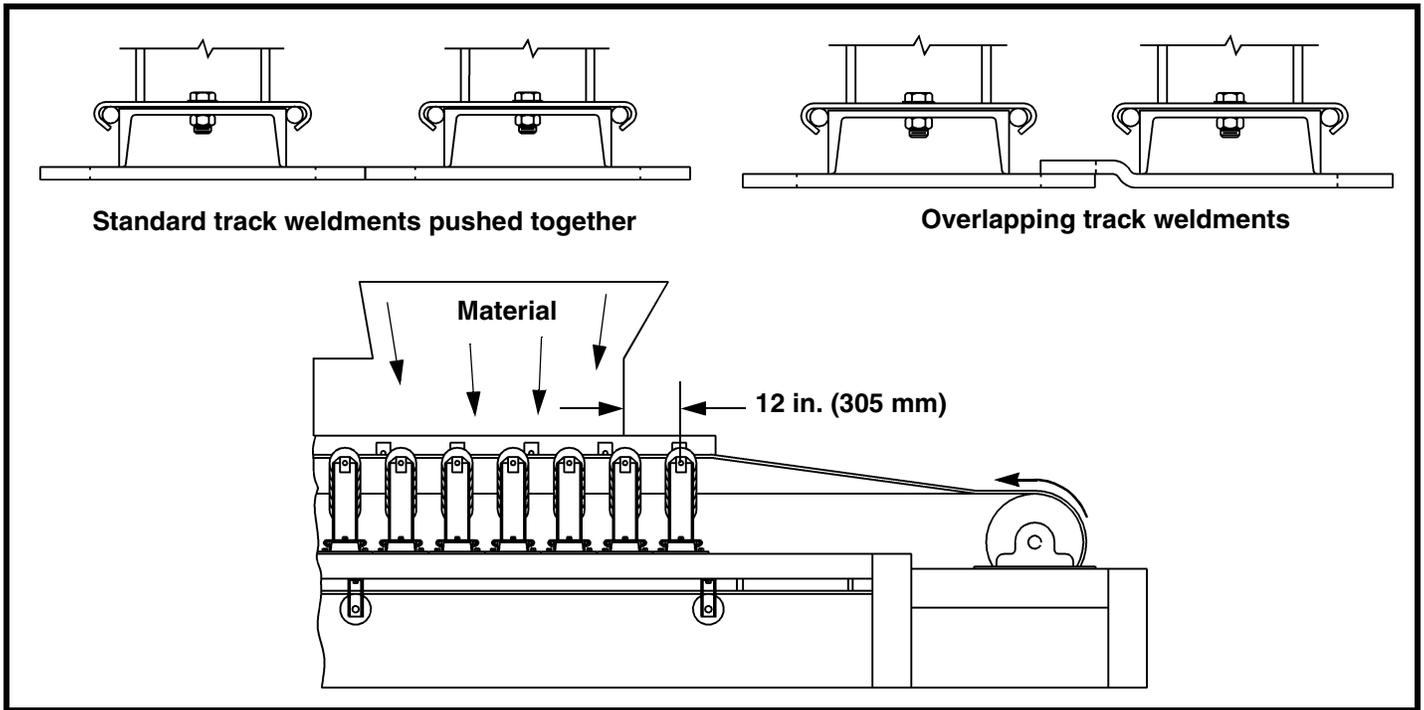

Figure 2. Installing Idlers in Impact Zone
2. From point marked on stringer, install idlers as explained in *Installing Martin® Trac-Mount™ Idlers*, making sure track weldments are as close together as possible (see Figure 2).